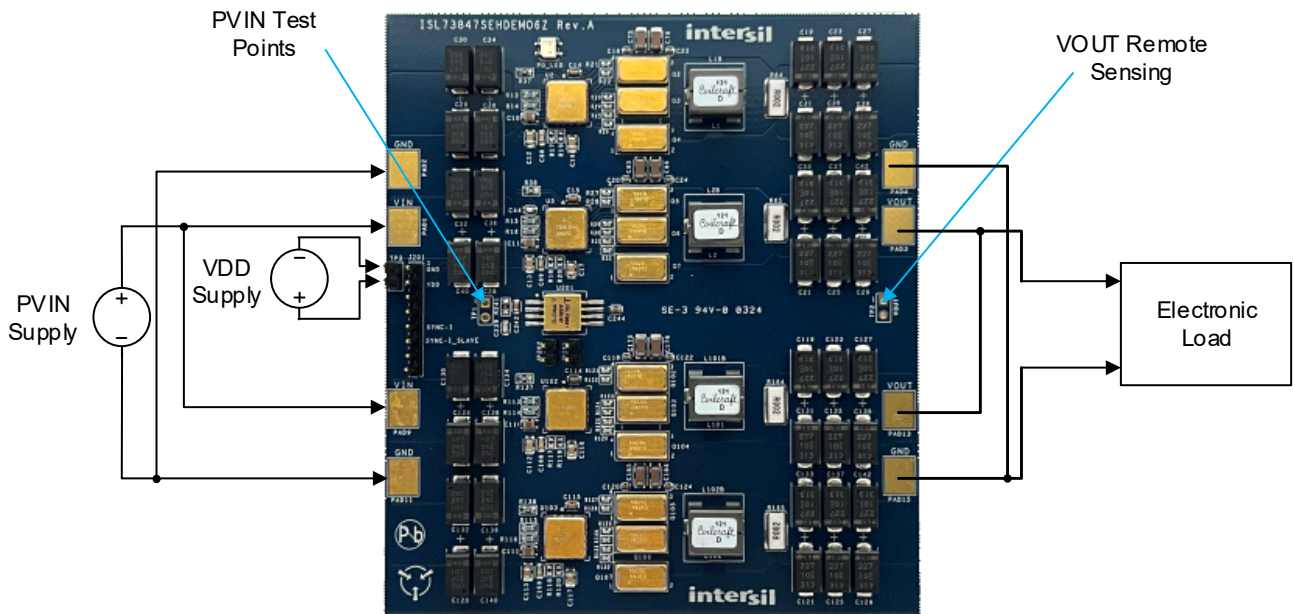

Figure 3. ISL73847SEHDEMO6Z Board Setup
2. Apply a 5V voltage to the PVIN pads as shown in Figure 3. To monitor PVIN on the board use TP1.
3. Apply a 9V to 13.2V voltage to the VDD TP3 jumper as shown in Figure 3 to use the on-board clock generator. If using a custom external clock generator VDD can be 5V to 13.2V.
4. If required, a resistor or electronic load can be connected to the VOUT pads as shown in Figure 3. If using an electronic load, you can add 4W sense lines on the TP2 test jumper.